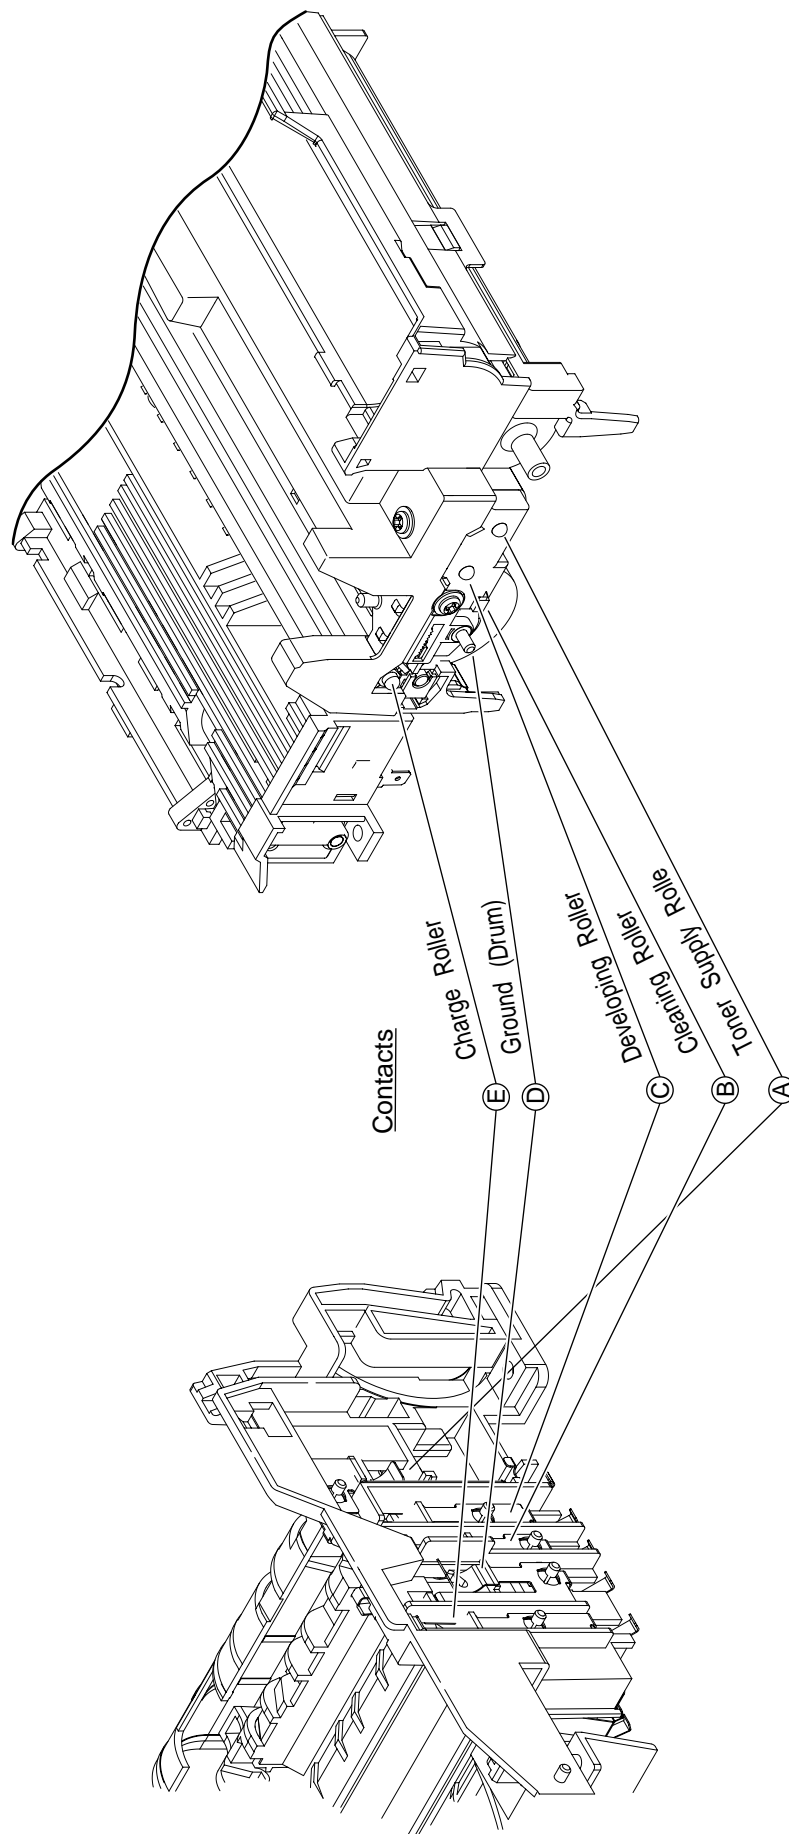

Figure 5-4
▼ Yes Are the contact of the developing roller and the contact of the toner supply roller of the image drum cartridge in contact with the contact assembly properly (see Figure 5-4 (A) and (B))?
- ▼ Yes Are the contacts of the toner supply roller, developing roller, image drum and charging roller in proper contact with the contact assy (see Figure 5-4 (A), (B), (C), (D), (E))?